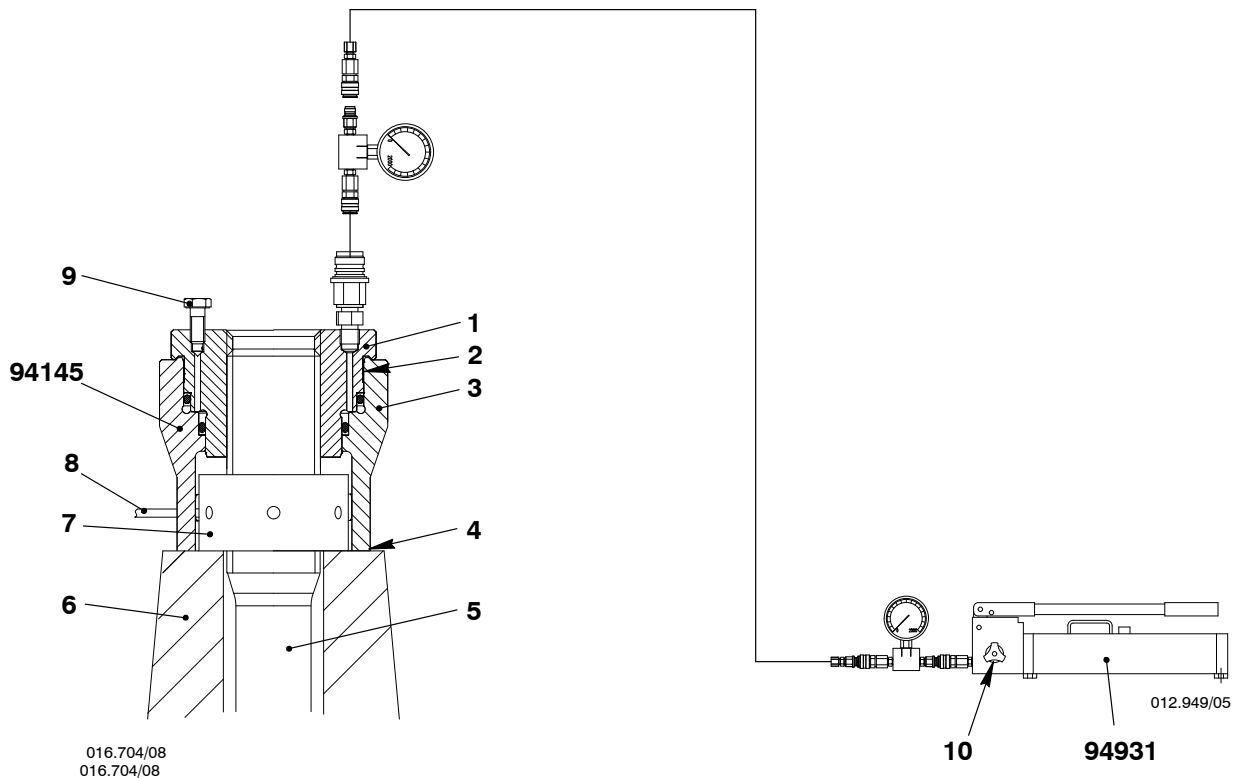

Fig. 3
- 2) Connect the pre-tensioning jacks (94145) to the hydraulic pump (94931, Fig.3), refer to 9403 2.
- 1) Clean the threads of the foundation bolts (5, Fig.3) and the seating surfaces.
- 2) Attach the pre-tensioning jack (94145) to the foundation bolt (5).
- 3) Open the vent screw (9).
- 4) Turn the foundation bolt (5) fully down until there is a small clearance, or no clearance between the foundation bolt and the round nut (7).
- 6) Close the relief valve (10).
- 7) Operate the HP oil pump (94931) until oil that has no air flows from the vent screw (9).
- 8) Close the vent screw (9).
- 9) Torque the foundation bolt (5) to 1500 bar and keep the pressure constant.
- 10) Do not move the piston (1) of the pre-tensioning jack (94145) to more than the red limit groove (2).
- 11) Put the feeler gauge (94122) through the slot (4). Do a check for clearance between the round nut (7) and the bush (6). If you find a clearance do step a) and step b).